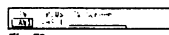

Fig. 53.
- 2 Select TV Screen (input source for the TV screen), PIP (input source for the PIP screen), or output (output source) with Δ or ∇ and press OK. One of the source items changes colour. (See Fig. 53)